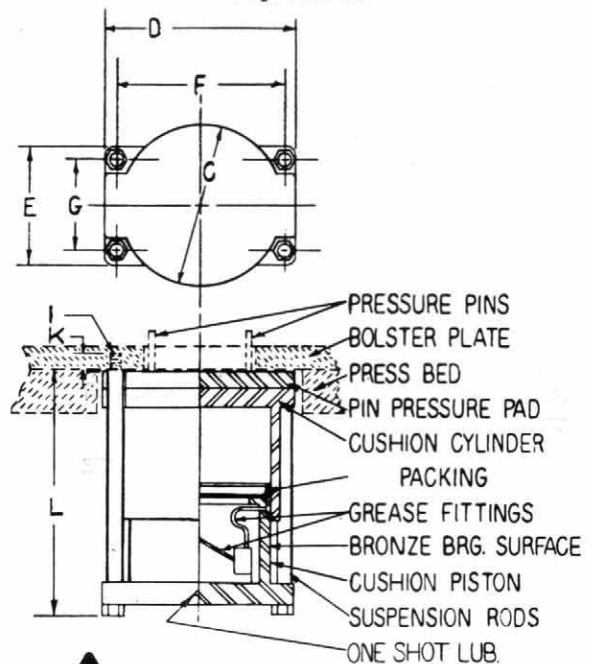

Fig. No. 27
(1) The die cushion should be mounted to the bolster plate so that it is centrally located with reference to the press bed opening. Scribe press bed opening on under side of bolster plate, remove, and check both surfaces to make sure they are flat and parallel. **This is important!** If surfaces are bowed or not parallel, have them machined and again scribe bed opening on bolster plate.
(2) Lay out holes according to "F" and "G", Fig. No. 27. The tolerance on these holes must be held to $\pm 1/64"$ for proper alignment with mounting rods. Drill and tap holes according to dimensions "I" and "K", making sure holes are square to the under surface of the bolster plate. (See P. 2.)
(3) Bolt bolster plate to bed in its normal position, and screw the ends of the mounting rods having the short length of thread into position. Make sure that the shoulders of these rods are securely tightened against the bolster plate.
(4) Position die cushion under rods, and raise so that rods pass through holes in base flange of cushion. Use temporary blocking if necessary to hold cushion until lock washers and nuts can be run on and tightened. (On HC-12 through HC-24 cushions, nuts should be pinned after assembled by cross-drilling, tapping, and inserting set screw.)
(5) Install booster pump and surge tank per instructions on pages 20 and 37, respectively. Combination regulator and gauge (page 36) can be substituted for booster pump if shop air pressure is adequate.
(6) Lubricate unit until grease emerges from between piston and cylinder walls before initial operation. The same procedure should be followed after EVERY 8 HOURS of operation. Use DAYTON ROGERS specially compounded lubricant. (See pages 73 and 74.)